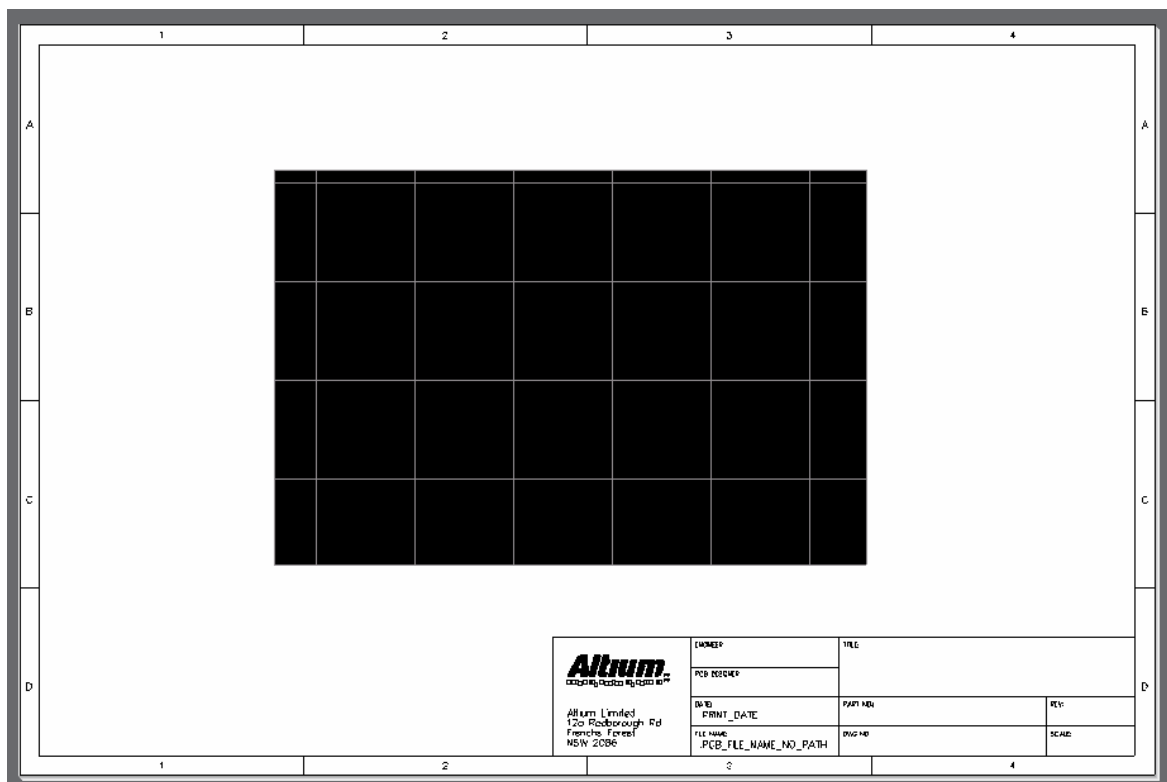

Figure 4. A new PCB created by using the New from Template option.
2. Choose `A4.pcbdoc` in the *Choose Existing Document* dialog. The new blank PCB will open, as shown in Figure 4, where the black region on the sheet represents the board shape. We will now redefine it based on data in a DXF mechanical file.